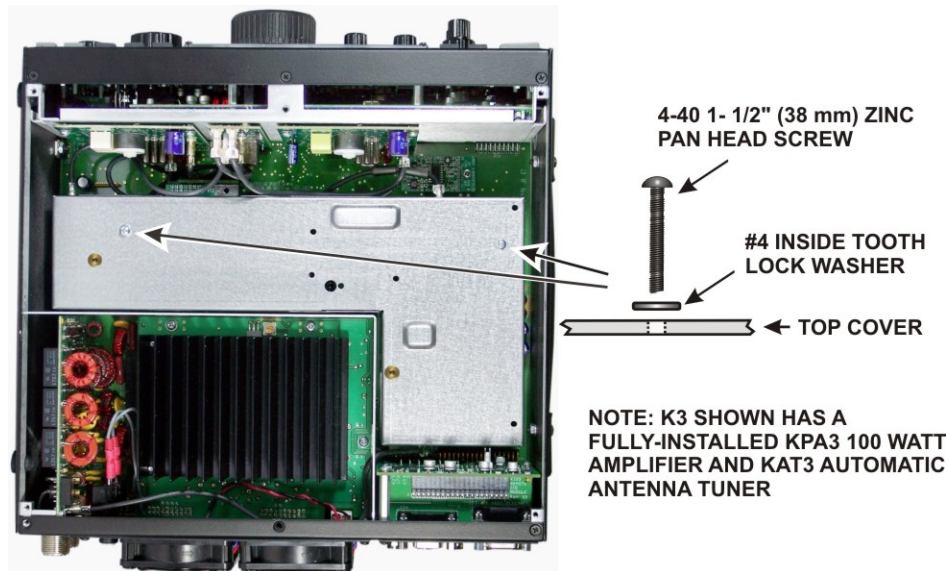

Figure 3. Removing the KRX3 Module.
- Remove the two 1-1/2" (38 mm) screws and lock washers shown in Figure 3. These screws extend all the way through the KRX3 module and secure it to standoffs mounted on the main RF board that fills the bottom of the K3.